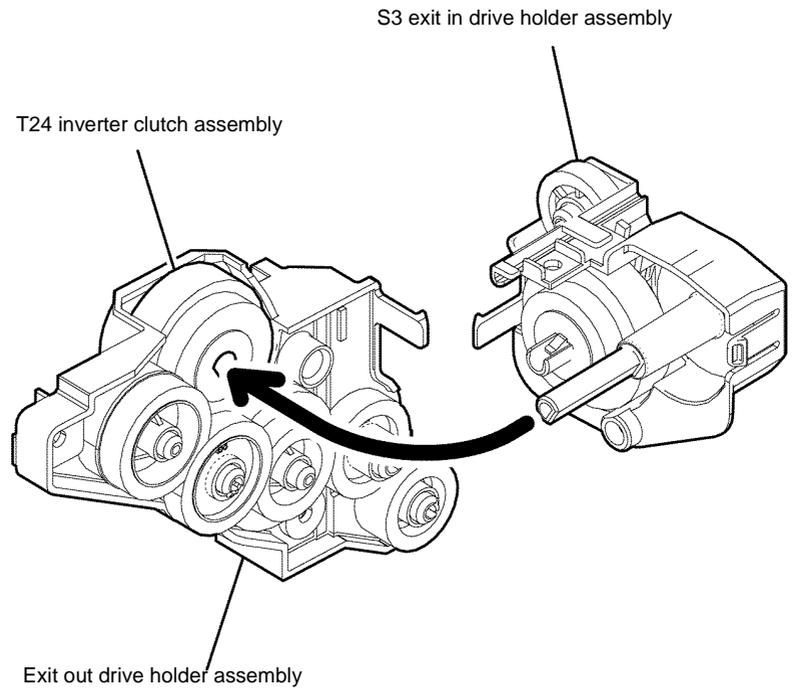

Figure 6 Exit out drive holder assembly installation
3. When installing the exit out drive holder assembly, fit the D-shaped shaft of the exit in drive S3 holder into the D-shaped hole of the T24 inverter clutch assembly, Figure 6.